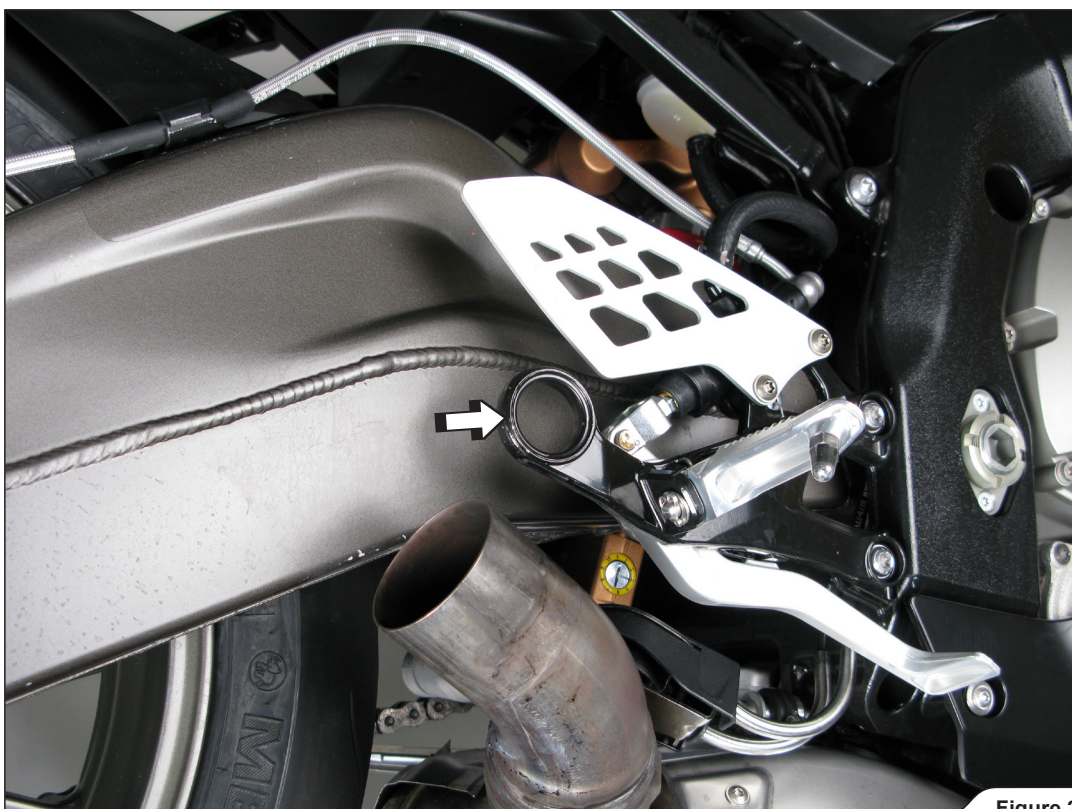

Figure 2
3. **For High Slip-On only:** remove the metal collar and rubber damper from the stock muffler hanging bracket (**Figure 2**).